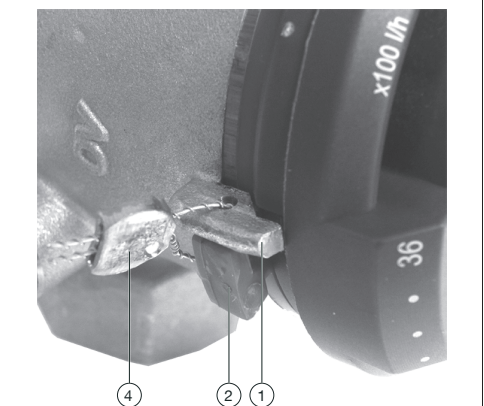

Abb. 15: Securing the preset
- Remove the blocking ring (2).
- Press and turn the handwheel (3) until the target value marking (1) shows the desired flow rate value (handwheel will then click into place).
- Reinsert the blocking ring (2).
i	Optionally, the blocking ring (2) can be lead-sealed with the lead seal set (4) (accessory, item no. 1089091) at the target value marking (1) (see Abb. 15).